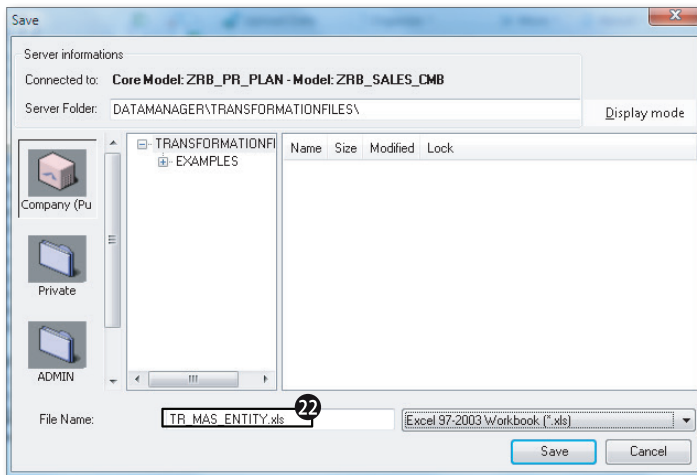
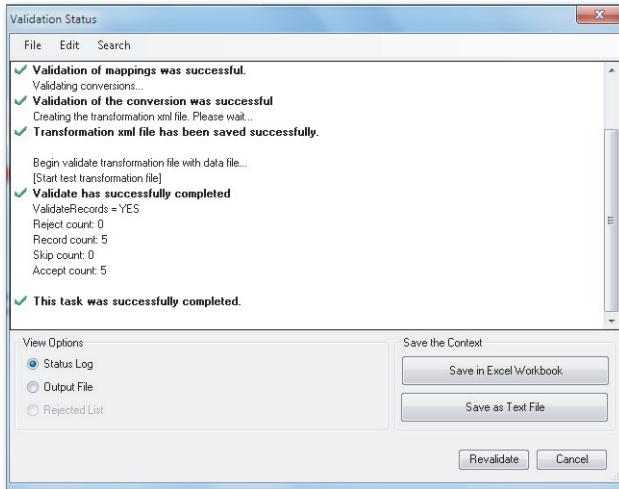

Figure 4.21 Loading Master Data from a Flat File into a Dimension—Part G
Figure 4.22 Loading Master Data from a Flat File into a Dimension—Part H
11. The system validates the transformation file and prompts you to save the transformation file in the BPC server (Figure 4.21, 22). Save the transformation file as “TR_MAS_ENTITY.XLS”. The system then outputs a log of the validation (Figure 4.22).